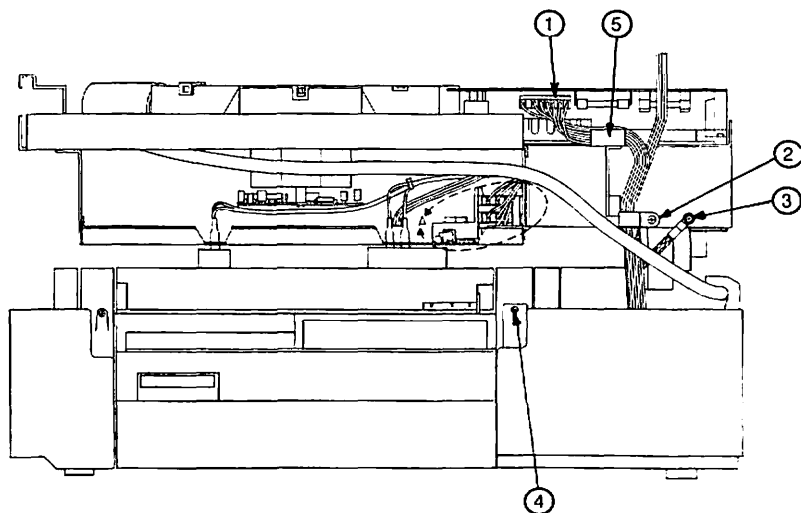

FIGURE 2-46
15. Remove the screw from the metal tab at the rear of the manual feed assembly (Figure 2-46, #4).